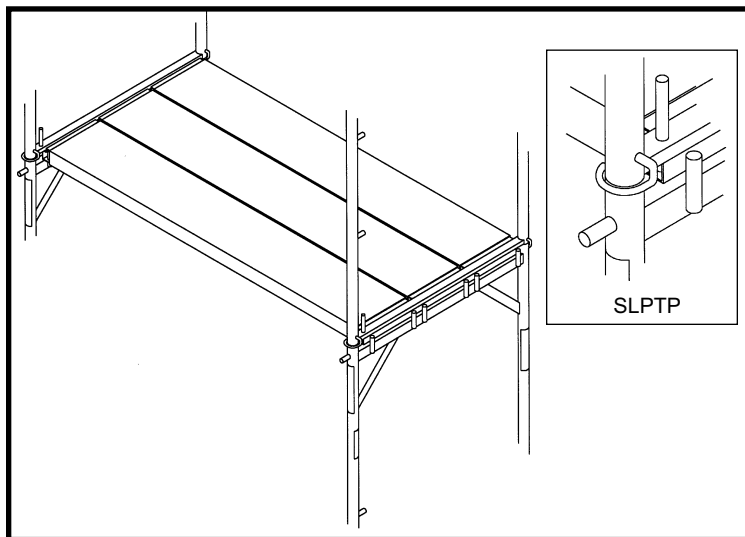

Figure 11: Pinning Frames
**Bracing:** Install bracing as each lift is installed. Prior to installing Vertical Diagonals, each scaffold frame leg must be pinned to the frame below using an external Pigtail Pin (SLPTP) (See Fig. 11). Follow the bracing pattern and assembly